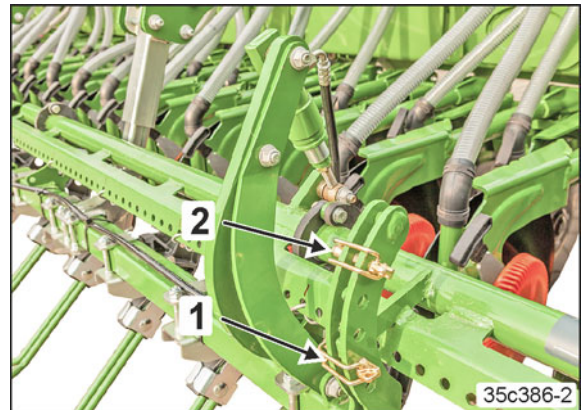

Fig. 192
- Lever in position 1 (Fig. 192/1)
- Lever in position 2 (Fig. 192/2)